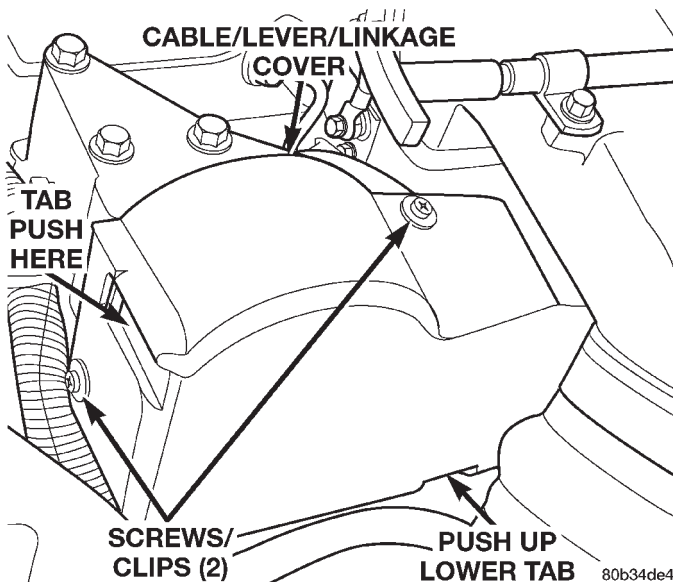

Fig. 54 Cable/Lever/Throttle Linkage Cover
(1) Disconnect both negative battery cables from both batteries. Cover and isolate ends of cables.
(2) Thoroughly clean fuel lines at cylinder head and injection pump ends.
(3) Remove cable cover (Fig. 54). Cable cover is attached with 2 Phillips screws, 2 plastic retention clips and 2 push tabs (Fig. 54). Remove 2 Phillips screws and carefully pry out 2 retention clips. After clip removal, push rearward on front tab, and upward on lower tab for cover removal. **Do not remove any cables at lever.**
(22) Install cable cover (Fig. 54).
(23) Connect both negative battery cables to both batteries.
(24) Bleed air from fuel system. Do this at fuel injector ends of lines. Use cylinders numbers 1, 3 and 4 for bleeding. Refer to Air Bleed Procedure section of this group. After bleeding, tighten fittings to 40 N·m (30 ft. lbs.) torque.
(25) Check lines/fittings for leaks.